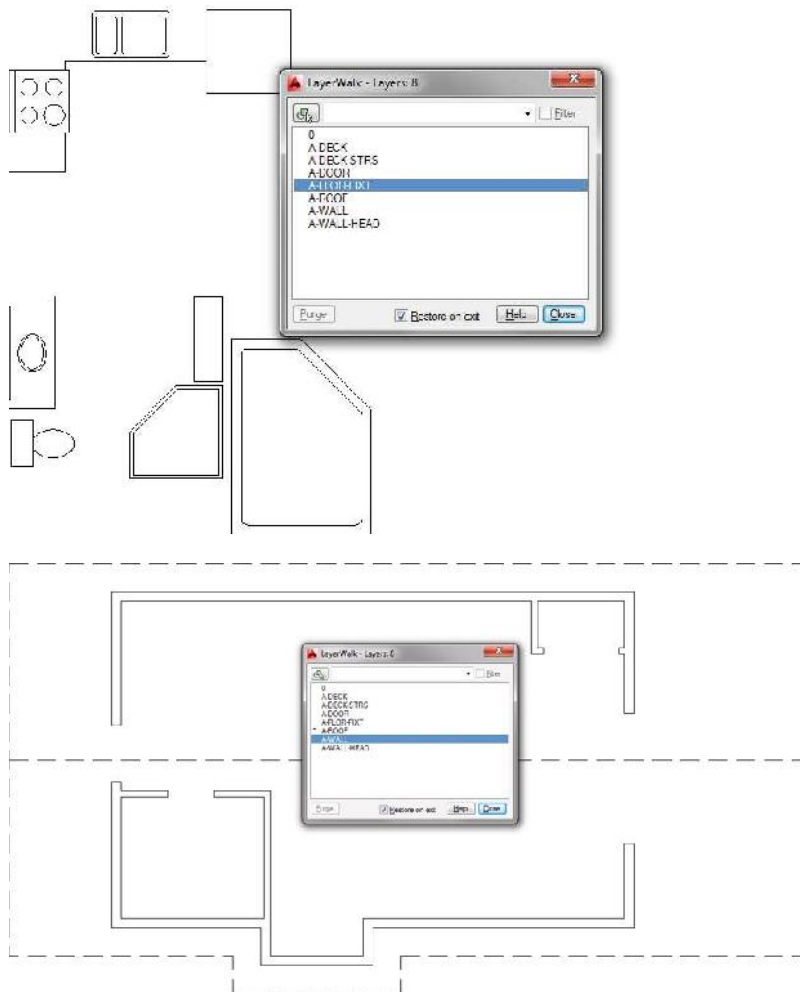

FIGURE 6.50: Displaying the contents of the A-FLOR-FIXT layer (top) and the A-WALL layer (bottom)
8. Use the up and down arrows to “walk” through the drawing's layers, verifying that the objects reside on the correct layers. The top of Figure 6.50 shows the cabin drawing with the A-FLOR-FIXT layer selected.
If you double-click a layer name, that layer stays displayed even when it isn't highlighted, and an asterisk appears next to the layer name. Figure 6.50 (bottom) shows the cabin drawing with the A-ROOF layer selected and the A-WALL layer locked on.